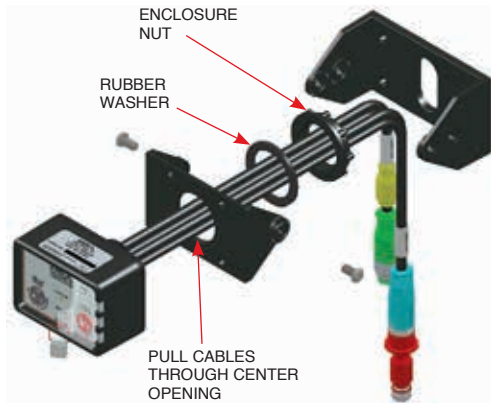

FIGURE 5-7
- c. Insert index pins into index holes and hand-tighten enclosure nut to threaded boss. See Figure 5-7.